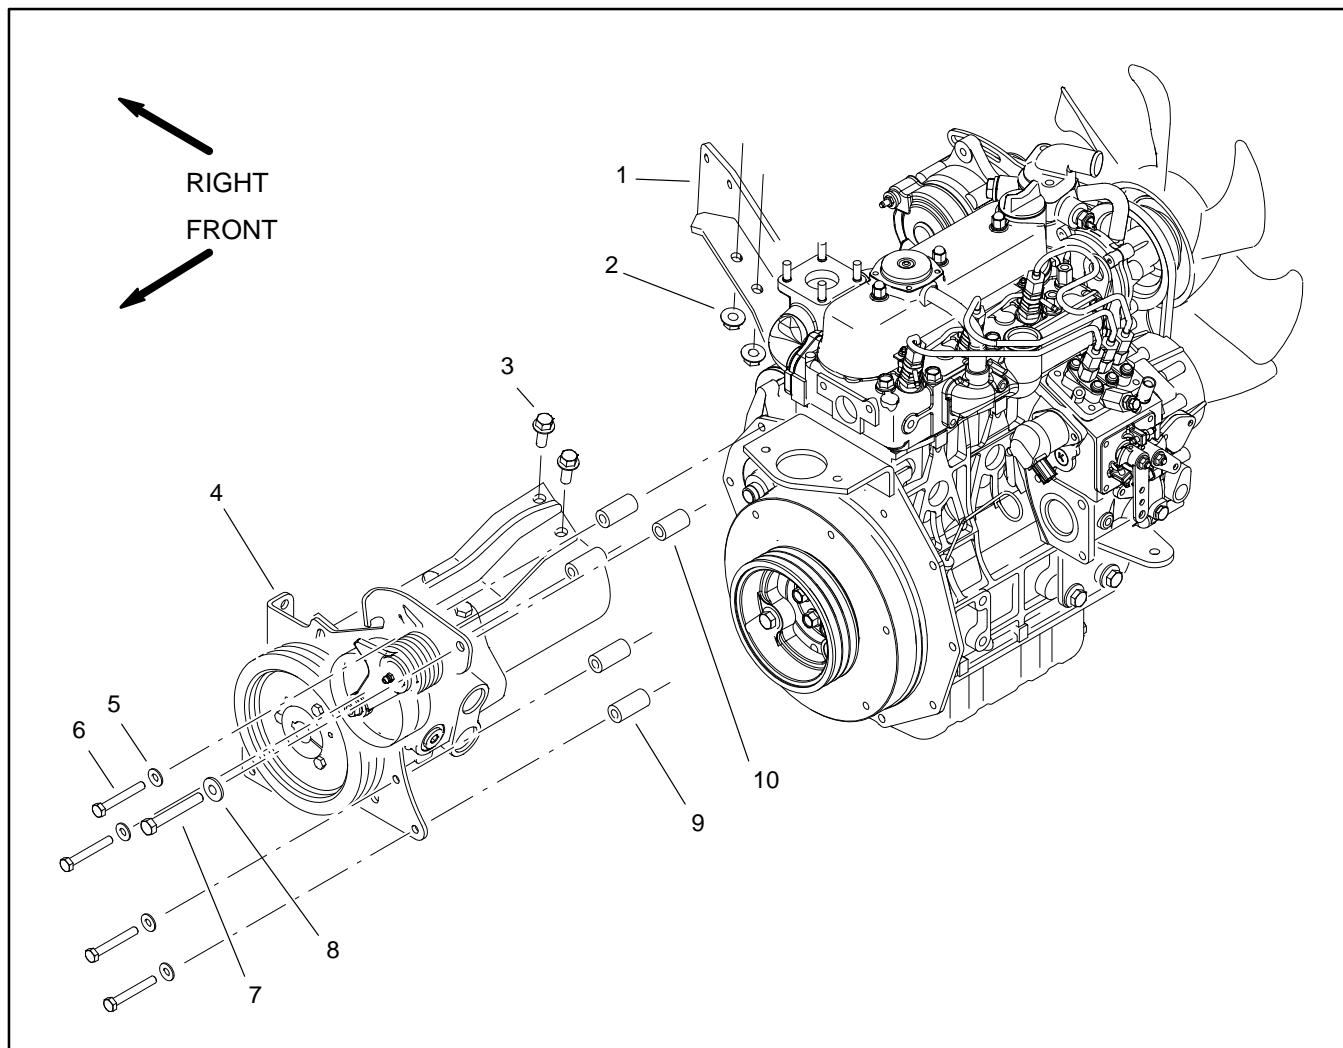

Figure 48
11. Remove fasteners and spacers securing the pump mount plate to the engine (Fig. 48). Record location of cap screws, washers and spacers for assembly purposes.
7. Position pump assembly to the machine. Install fasteners and spacers securing the pump mount plate to the engine and pump support (Fig. 48). Tighten fasteners securely.